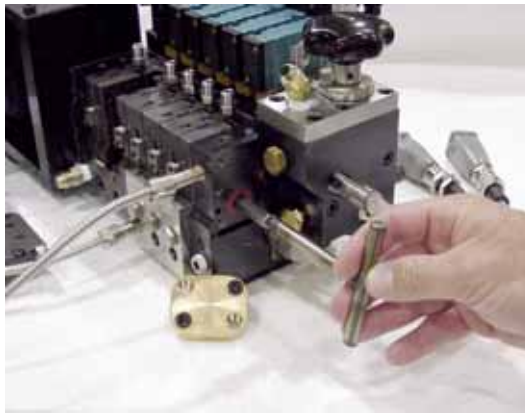

Figure 7-11 Using the shaft puller to install the pump shaft
5. See Figure 7-11. Reinstall the pump shaft. Turn the shaft slightly as you thread it through each slice to properly align the shaft to the hex receiver in each pump. Push the shaft in until it is flush with the end plate surface. Remove the shaft puller by turning it counterclockwise.